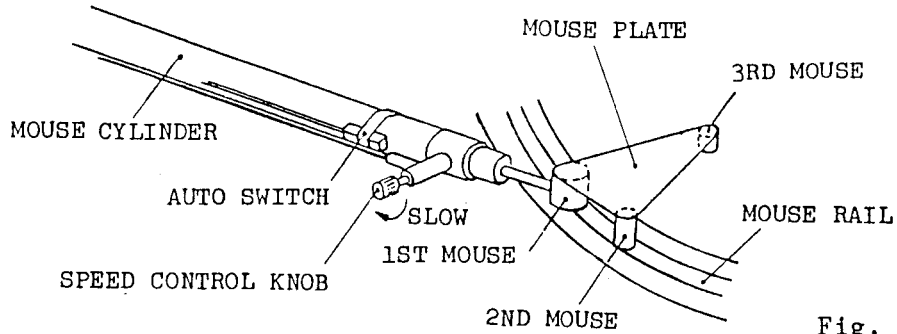

Fig. 5
- 10) Assemble mouse plate and second mouse (see Fig. 5)
The push out speed of the mouse is adjusted by turning the speed control knob provided on the mouse cylinder (see Fig. 5). To make mouse speed slower, turn speed control knob clockwise and to make it faster, turn knob counterclockwise.